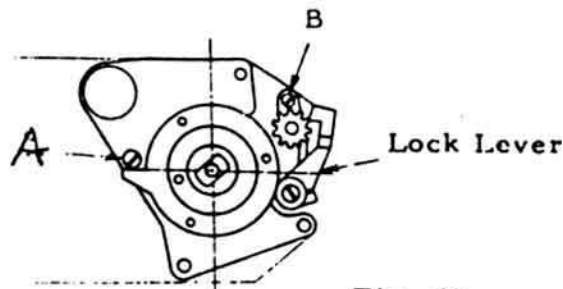

Fig. 41
- 2) Adjustment of Counter feeding Eccentric screw B (Fig. 41).